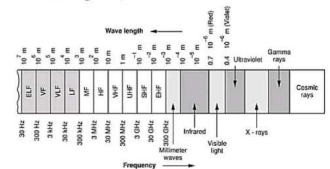

Fig. Q.24.1 Electromagnetic spectrum
• The electromagnetic (EM) waves consist of both electric and magnetic fields and they can travel a long distance through space.
• The range of all possible frequencies of EM waves is called the electromagnetic (EM) spectrum.
• The Fig. Q.24.1 shows the electromagnetic spectrum. The electromagnetic spectrum, shown in the Fig. Q.24.1 extends from just below the frequencies used for modern radio (at the long-wavelength end) to gamma radiation (at the short-wavelength end).